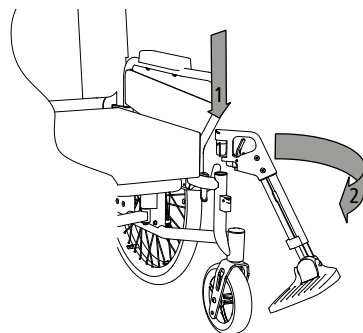

Fig. 4
1. Hook the leg rests in at the side (1, Fig. 4) and swivel them forwards (2, Fig. 4). The leg rest will then click into place automatically.